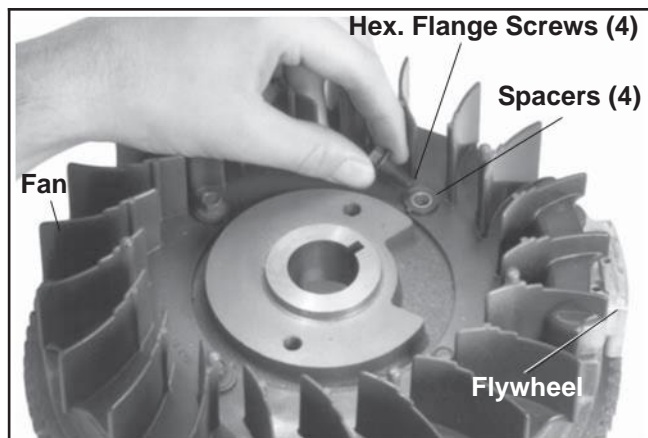

Figure 11-28. Installing Fan to Flywheel.
2. Reattach the fan to the flywheel, using the spacers and hex. flange screws, or shoulder screws. See Figure 11-28. Torque the hex. flange screws to **9.9 N·m (88 in. lb.)**. On electric start models, with the domed fan, proceed through step 4 before reattaching the fan.